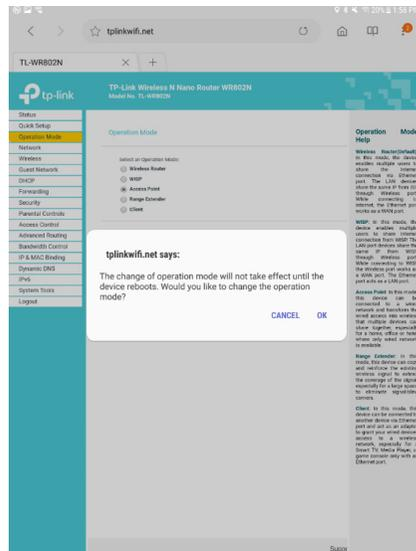

Figure 2-5. Operation Mode/Access Point
4. Select Operation Mode as shown in Figure 2-5 and ensure Access Point is selected.